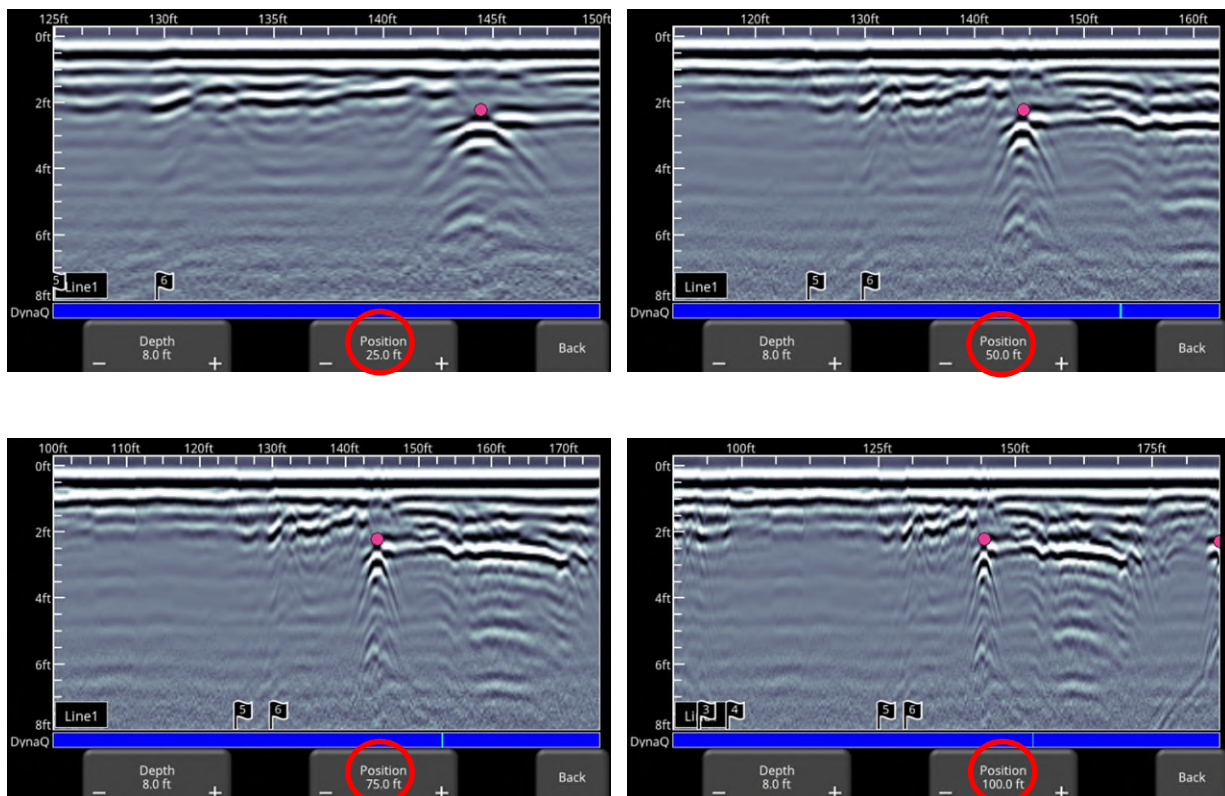

Figure 6-13: Varying position, or horizontal scaling
- **Position** – Pressing **+** and **-** under the **Position** button allows you to change the length of data displayed on a single screen. This is also known as horizontal scaling. The pre-set values range from 10m to 30m (25' to 100'), see Figure 6-13.